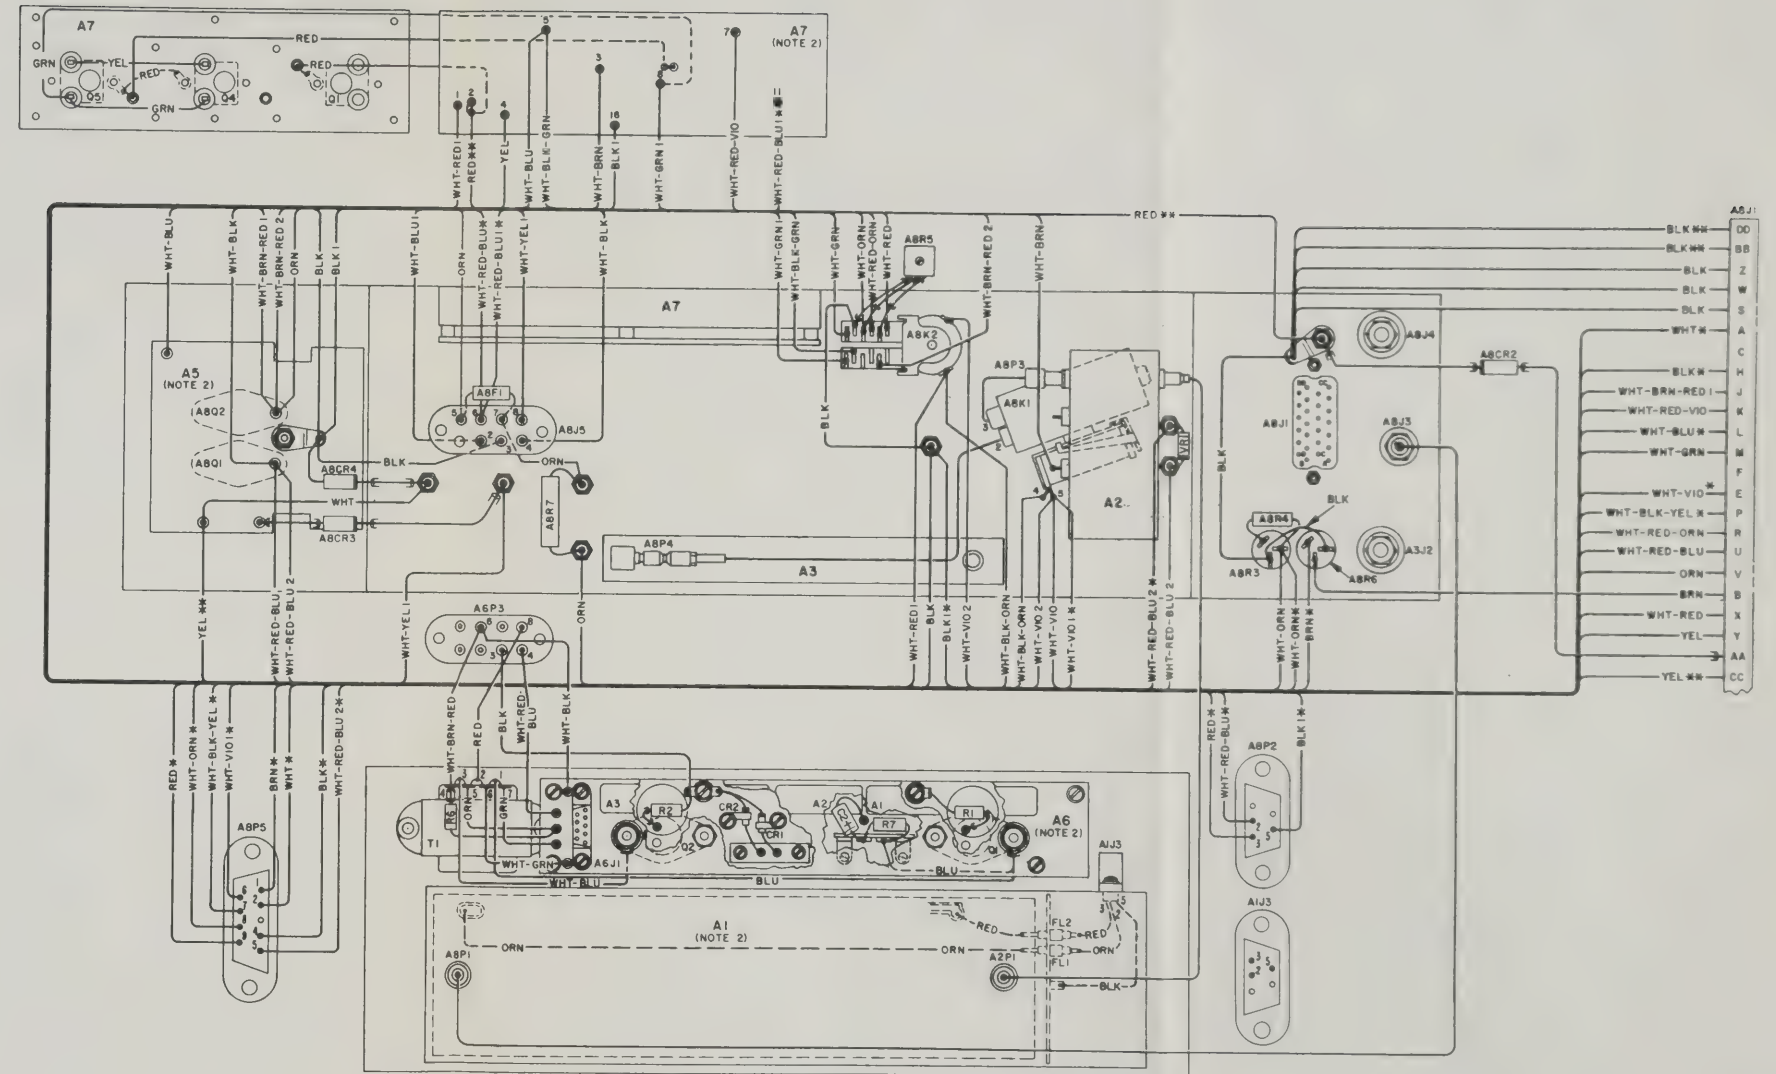

Figure 6-5A. RTA-831A Accessory Unit (Later Units), Wiring Diagram
2. For wiring diagrams, see Figures 6-5A and 6-6.